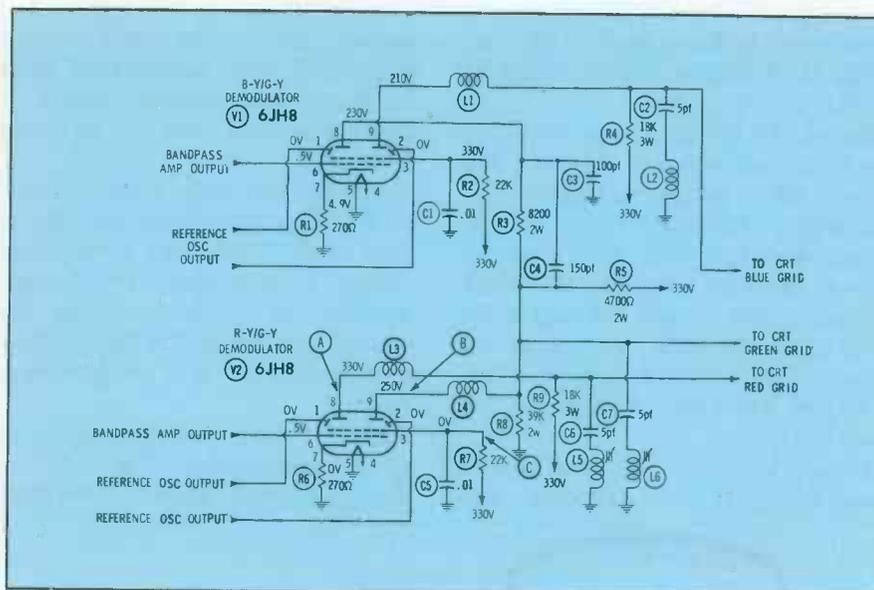

Fig. 4. Shorted C5 removes screen-grid voltage, tube and conduction ceases.
**Step 5:** Make voltage checks at R—Y demodulator (Fig. 4).